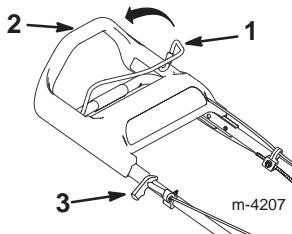

Figure 12
3. Hold the blade control bail against the upper handle (Fig. 12).
A. Pull the starter handle lightly until you feel resistance, then pull it sharply (Fig. 12).